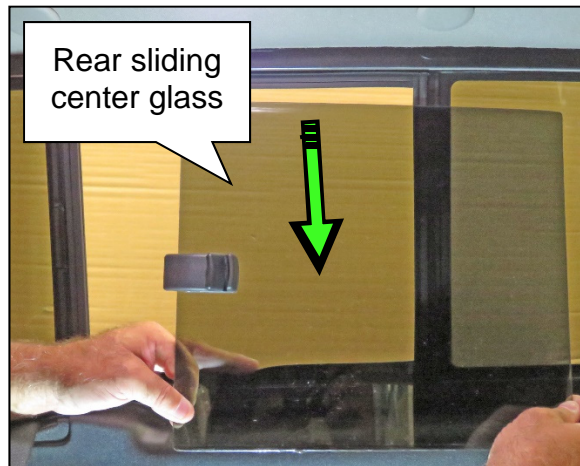

Figure 7
- Pull the rear sliding center glass down with the bottom tilted toward you to remove it from the upper glass channel (Figure 7).